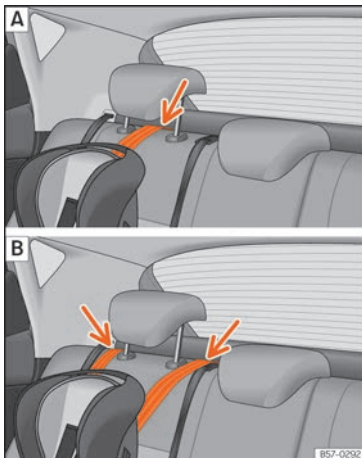

Fig. 41 Retainer strap: correct adjustment and fitting.
- Place the belt under the head restraint of the back seat »» Fig. 41 (depending on the instructions of the chair itself, lift or remove the head restraint if necessary).